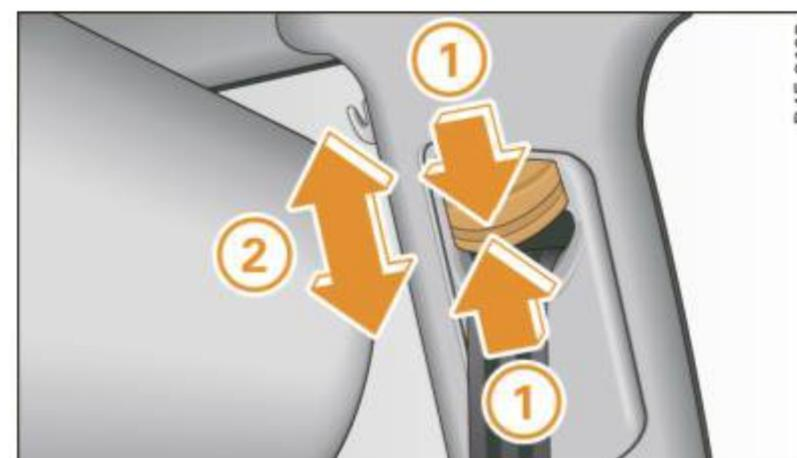

Fig. 170 Safety belt height adjustment for the front seats – loop-around fittings
- Push the loop-around fittings **up** ⇒ fig. 170 , or